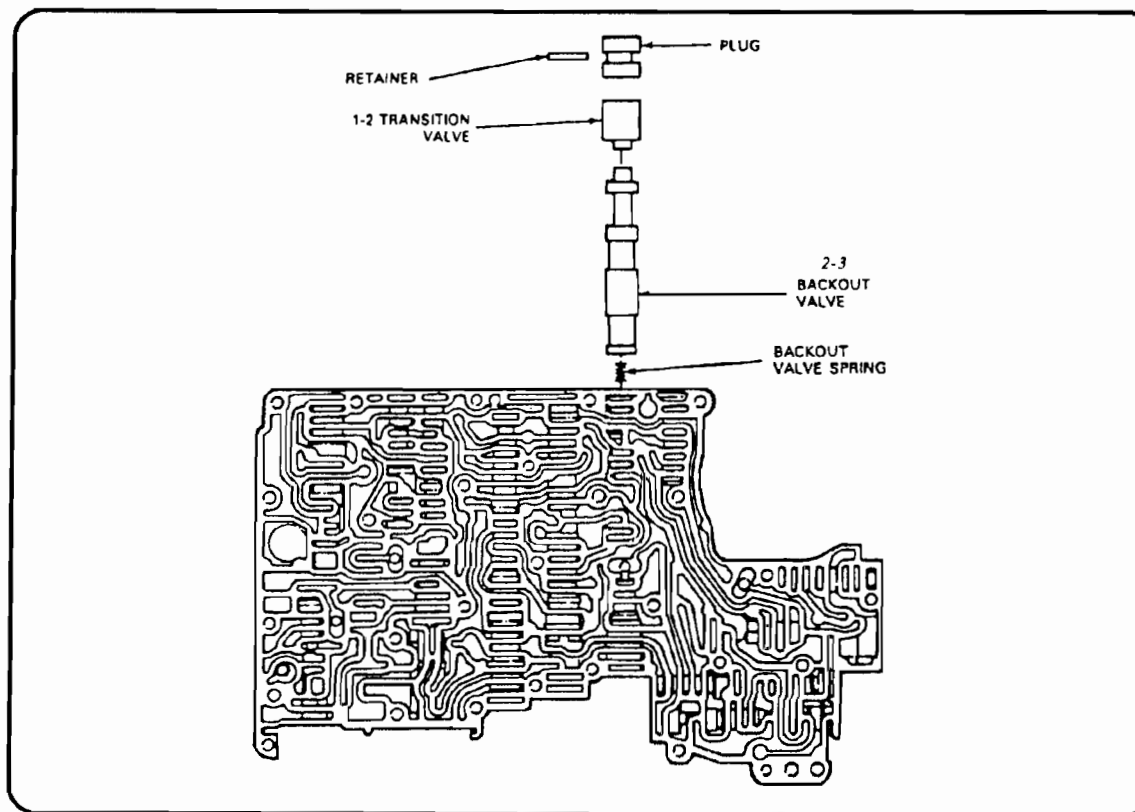

Figure 1.
**CORRECTION:** A new 2-3 backout valve spring is available from Ford that has a revised calibration. It is light blue in color. The part # is **F3TZ-7D230-B**. See figure 1 for the proper bore identification and spring location.
- 1ST DESIGN - This valve body has ONE Solenoid for converter clutch apply and release. These valve bodies require six (6) checkballs placed in the locations shown in Figure 1. DO NOT install checkball in the locations marked with an "X".